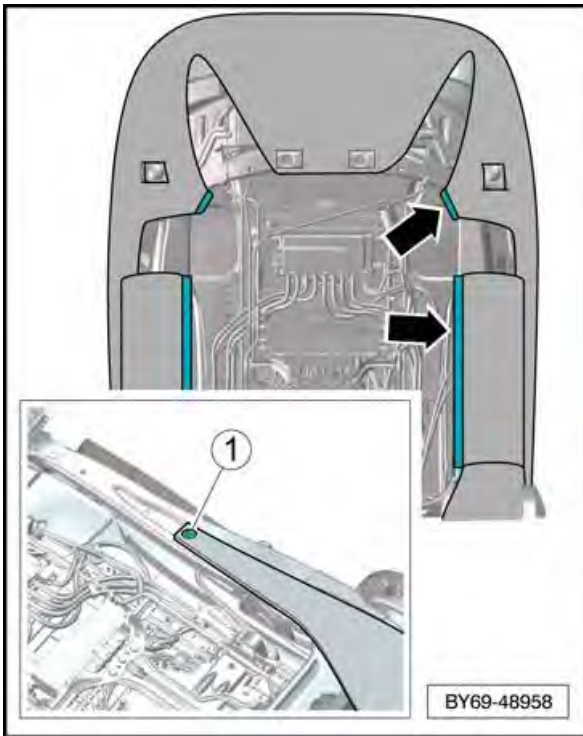

Figure 43
5. Release the squab cover clips—arrows—from the air bag side of the squab frame (see Figure 43)
6. Remove the clip -1- and remove the cover flap. Fold the flap through the underside of the squab and fold back the cover to expose the air bag (see Figure 43)